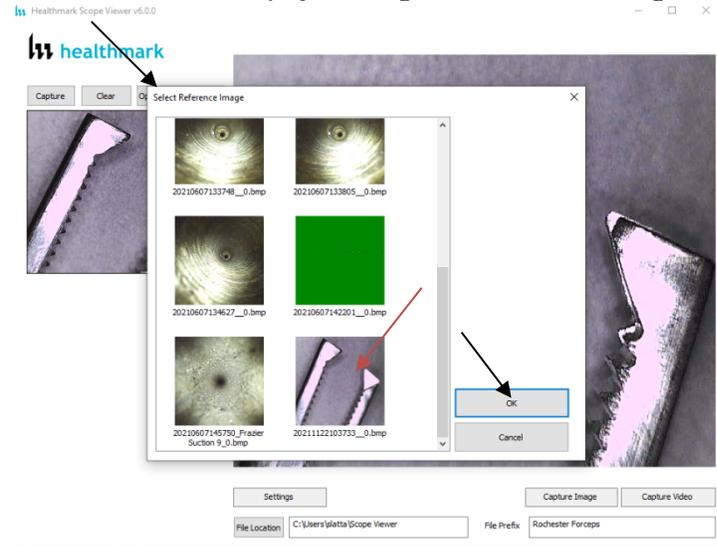

Figure 9
- c. Click the *OK* button to display the image in the Reference Image Window. (Fig 9).